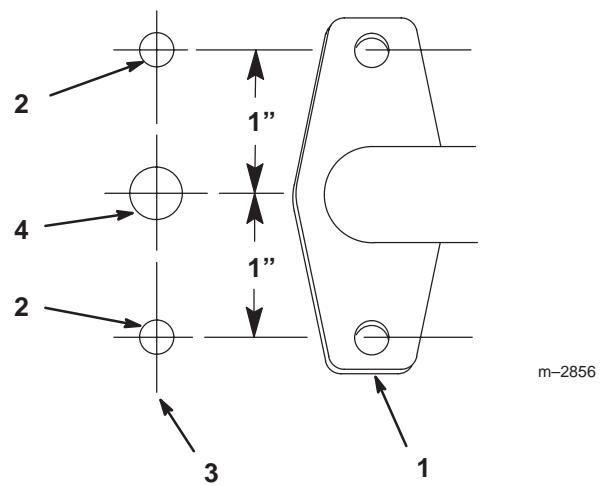

Figure 4
5. Use fitting as a template and mark the location of two mounting holes (Fig. 4).
6. Place a straight edge between mounting holes and mark the center line (Fig. 4).
7. Measure half-way between mounting holes and mark water hole location (Fig. 4).
8. Center punch and drill two (2) 9/32" (8 mm) mounting holes and one (1) 3/8" (9.5 mm) water hole (Fig. 4).